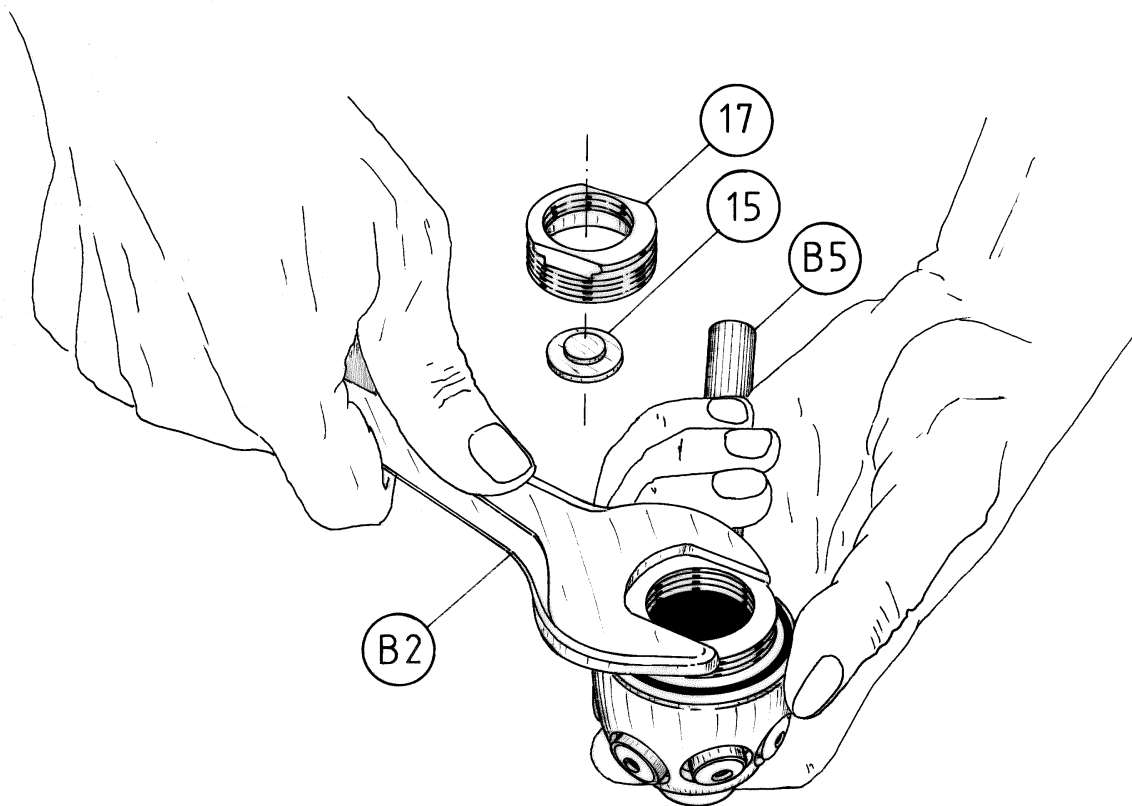

FIG. 5
14. Back off the retaining nut (17) using the 28-mm open end wrench (B-2) and remove the spring base plate (15). (Fig. 5).